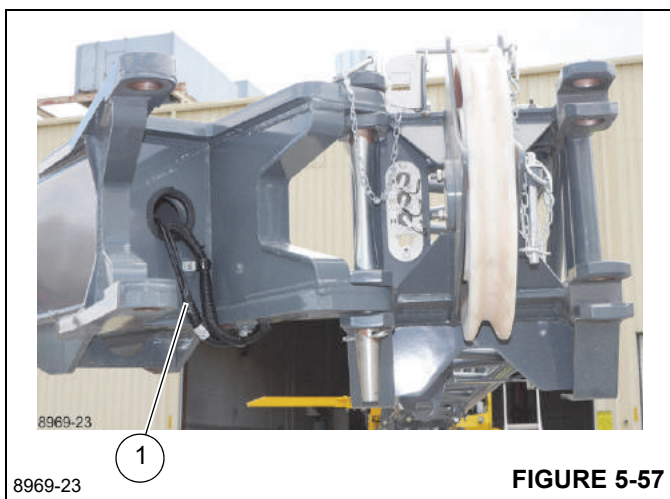

FIGURE 5-57
- a. Remove the wires (1, Figure 5-57) from their stowed location.